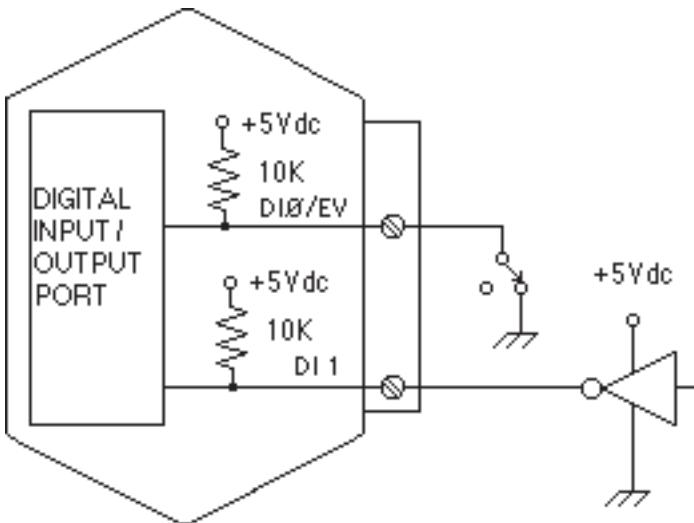

Figure 6.3 Digital Inputs
Digital inputs are used to sense switch closures and the state of digital signals. The inputs are protected to voltages up to $\pm 30V$ and are normally pulled up to the logic "1" condition (see Figure 6.3). Digital inputs can be read by the Digital Input (DI) command. Voltage inputs less than 1 V are read back as '0'. Signals greater than 3.5 V are read as '1'. No other commands have any affect on the inputs.